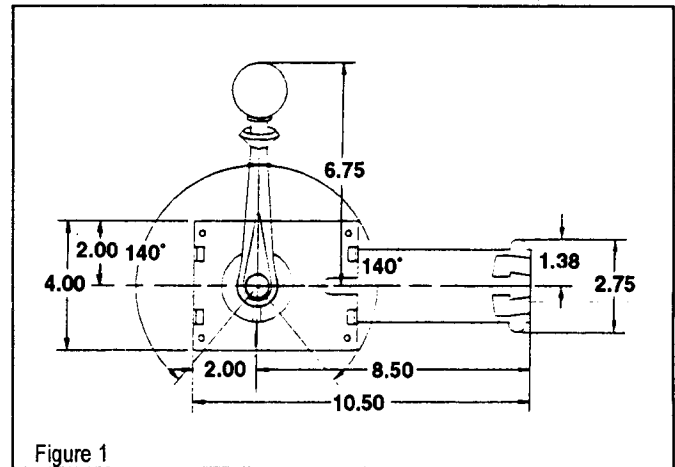

Figure 1
1. Select a location for the control ensuring that the handle does not interfere with dashboard, steering wheel, seat, switches, or other equipment at any point in its travel. NOTE: THICKNESS OF MOUNTING SURFACE MUST NOT BE GREATER THAN 1/2". Also ensure that the cables will have at least 36" of unrestricted space for movement (see INSTALLATION OF CABLES). Refer to figure 1 for dimensions and clearances. NOTE: CONTROL CAN BE MOUNTED HORIZONTALLY OR VERTICALLY TO FACILITATE CABLE CLEARANCE.